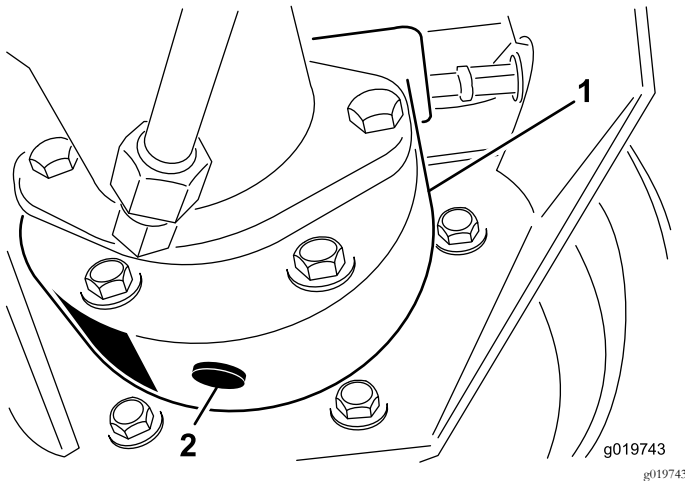

Figure 56
3. Place a drain pan under the brake housing, remove the drain plug, and allow the oil to drain (Figure 56).